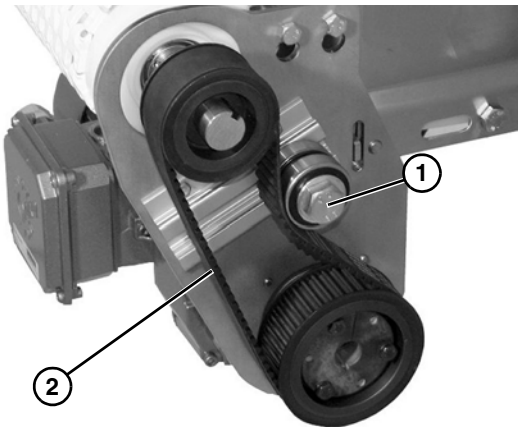

Figure 14
2. Loosen tensioner (**Figure 14, item 1**).
5. Tension timing belt to obtain 1/8" (3 mm) deflection for 6 lb (3 Kg) of force at timing belt mid-point (**Figure 14, item 2**). Tighten tensioner screw (**Figure 14, item 1**) to 110 in-lb (12 Nm).